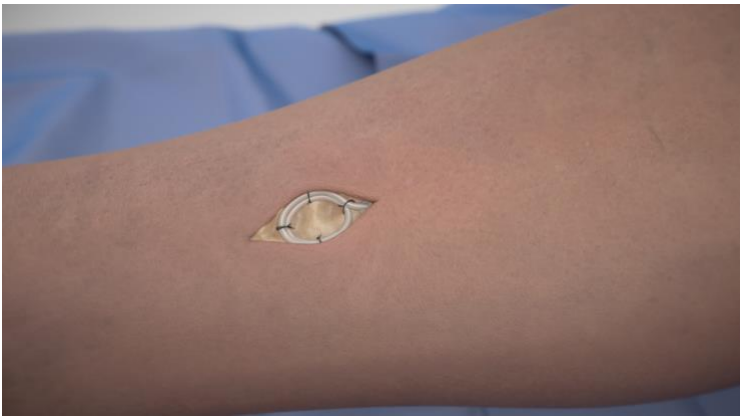

Figure 3
- Using a non-absorbable suture, suture the receiver coil to the fascia at two locations, ensuring it is flat in the pocket. (Figure 3 & 4)